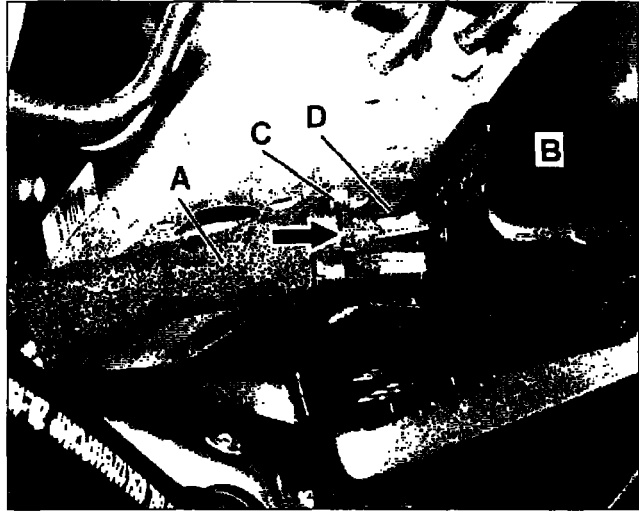

Figure 12
14. Secure the SBC wiring harness (A, Figure 12) (**excluding** the ground wiring harness) to the SBC connector cover harness receptacle (D) using a new cable tie (arrow).